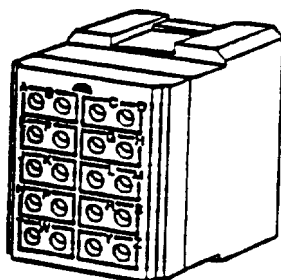

Figure 1. TJS Block
2. The Terminal Junction System (TJS) consists of bussing blocks, racks, brackets, wire-in-line junctions, grounding terminals, grounding blocks, electronics blocks and electronic in-line junctions that are used for innerconnecting electrical components and equipment in an electrical or electronic system. These environment resistant components have in common the use of crimp type external pin contacts in accordance with MIL-C-39029/1 for series I or crimp type external socket contacts in accordance with MIL-C-39029/22 for series II This family of TJS components is designed to operate continuously over a temperature range of -85°F to +392°F (-65°C to +200°C) (Figure 1).
13. BUSSING. Bussed means interconnected electrically within the component housing. Bussing arrangements and their circuit designators are shown in the boxed areas on top of the grommet (Figure 1). Each common bussed area is called a module.